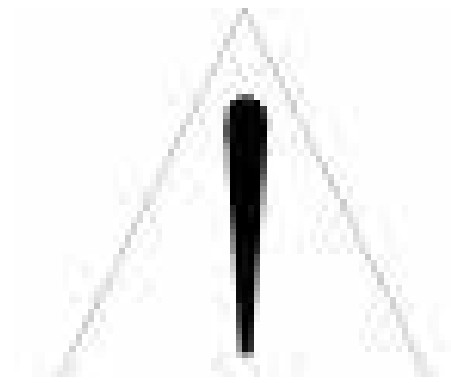

Figure 4.10 - Installation of the second pair of eyebolts
3. Install a second pair of eyebolts, as shown in Figure 4.10;